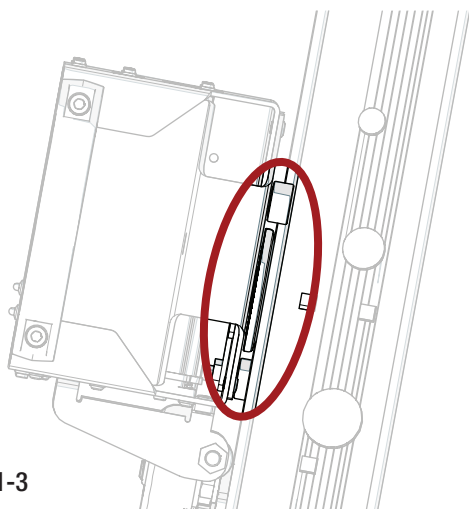

Fig. 11-3
- Double check the guide wheels are aligned with the track side by looking down the side of the power box shown in Fig. 11-3.